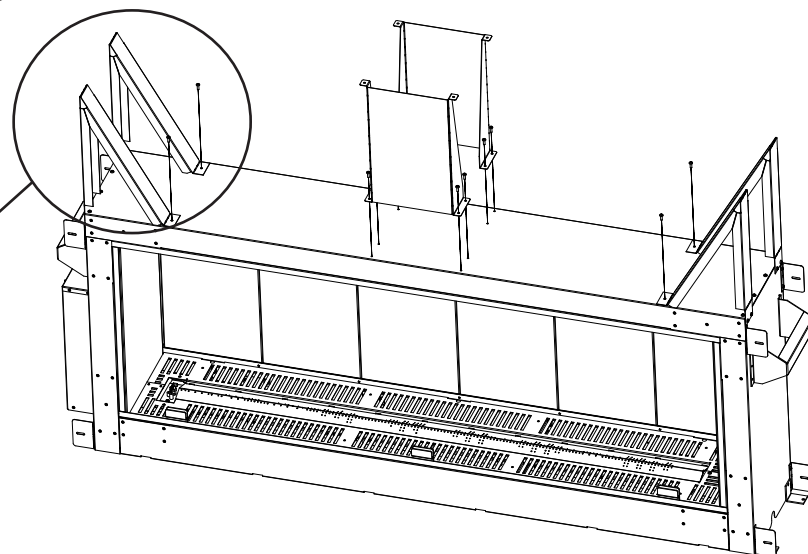

Figure 21: Nailing Flange Assembled
3. Install center facing supports and top standoffs using supplied T-20 screws (Figure 21). Only the front standoffs and facing support need to be installed if doing a single sided installation.